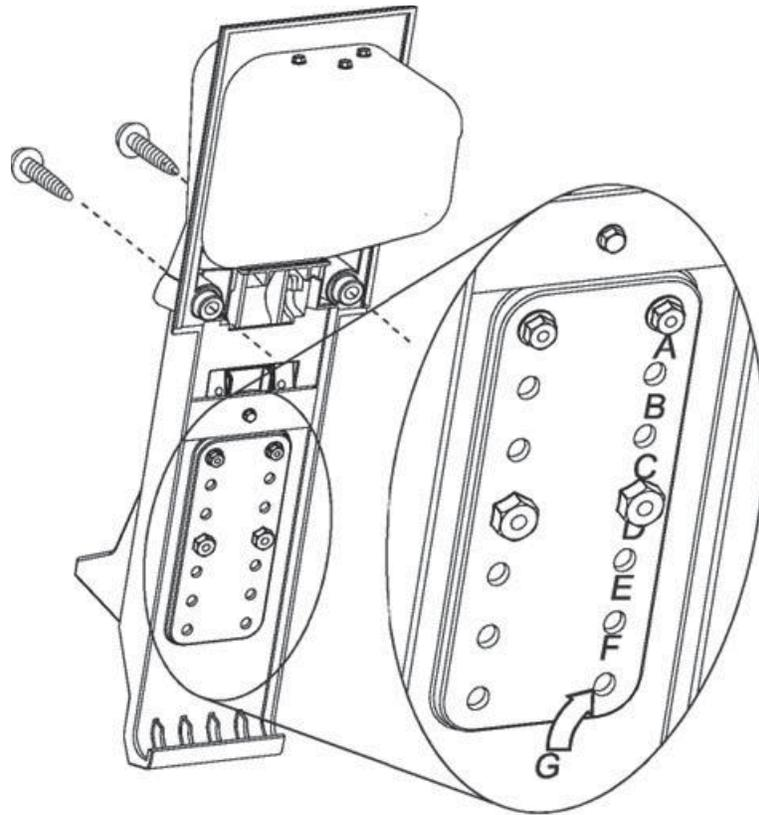

Figure 1
1. Loosen two nozzle boot mounting screws. (See figure 1) using 1/4" square tip driver. Note: Save nozzle boot mounting screws for use later.
2. See Figure 1 to identify existing nozzle hook retaining screw and nut locations. Identifying marks are located under right hand row of indented hole locations. Standard nozzle hook locations are A & D.
1. Determine new nozzle hook position using chart below as guide to select new hole positions. See Figure 1 to identify nozzle hook retaining screws and nuts locations. Identifying marks are located under right hand row of indented hole locations.